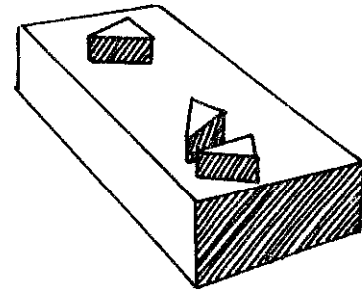

FIGURE 9
- o Paired wedges solidly mounted on a block or heavy **bench** can be used to split strips into **three** narrower strips (see Figure 9).